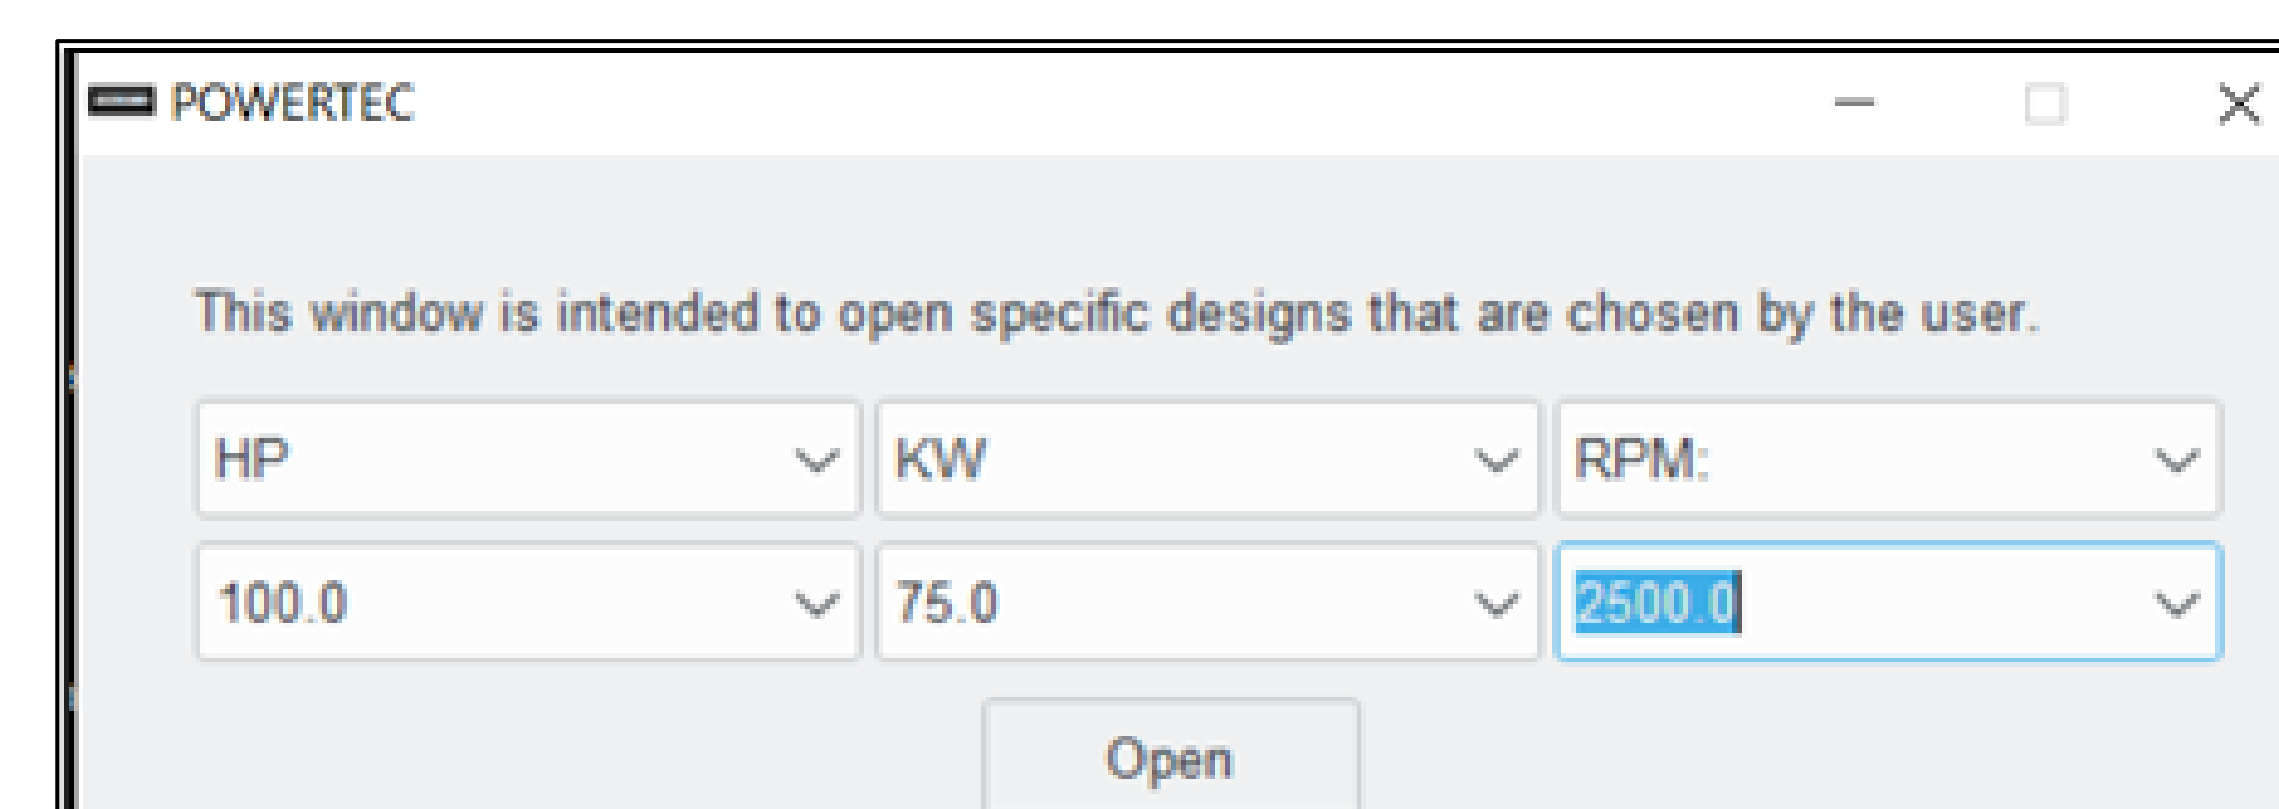

Figure 4 : Filter Window
- Program views existing designs by sifting through the database using a three step filtering algorithm using the user's desired search parameters to view design. (Figure 4 & 5)